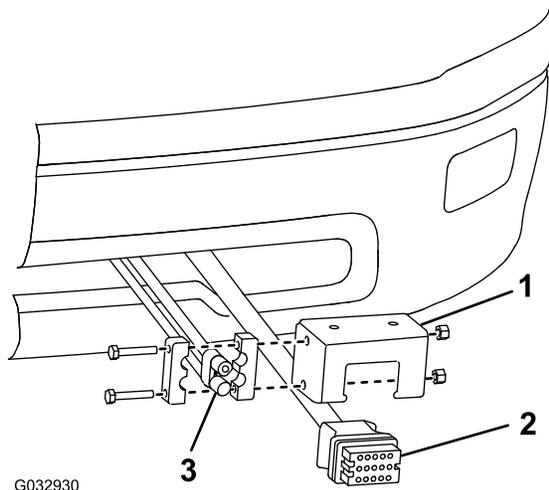

Figure 4
19. Mount the truck-side, wire harness plow connector to the lower part of the bumper using the control-harness mounting bracket (Figure 4).
20. Mount the black and red power/ground connector to the control-harness mounting bracket (Figure 4).